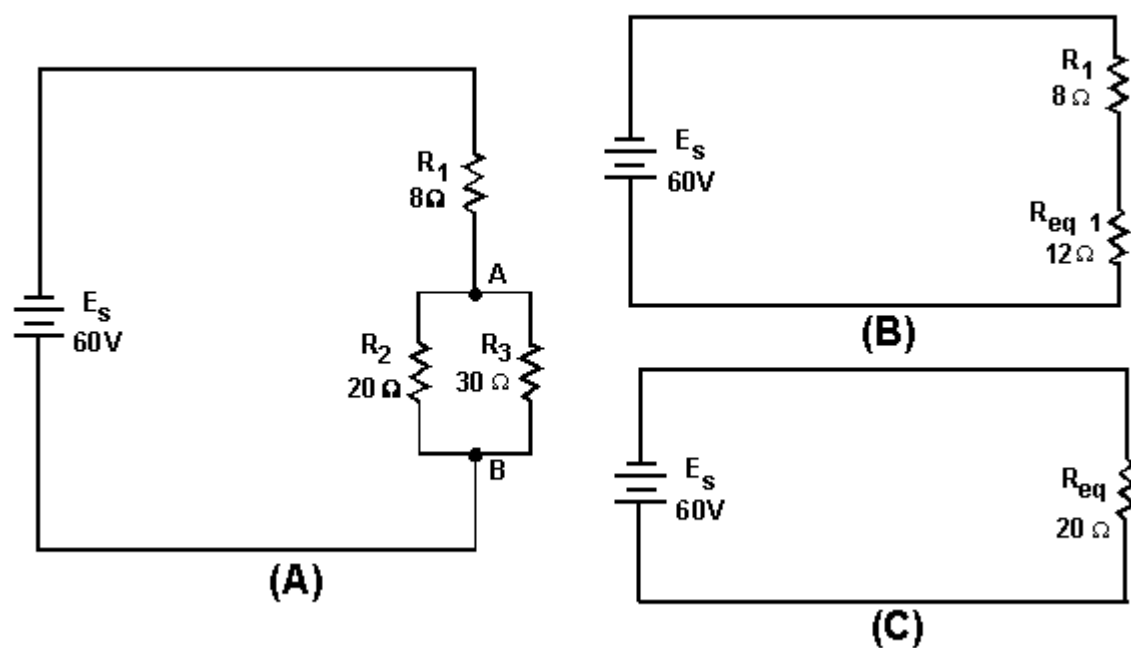

Figure 3-54.—Example combination circuit.
The basic technique used for solving dc combination-circuit problems is the use of equivalent circuits. To simplify a complex circuit to a simple circuit containing only one load, equivalent circuits are substituted (on paper) for the complex circuit they represent. To demonstrate the method used to solve combination circuit problems, the network shown in figure 3-54(A) will be used to calculate various circuit quantities, such as resistance, current, voltage, and power.
Now that the equivalent resistance for  $R_2$  and  $R_3$  has been calculated, the circuit can be redrawn as a series circuit as shown in figure 3-54(B).
The original circuit can be redrawn with a single resistor that represents the equivalent resistance of the entire circuit as shown in figure 3-54(C).
To find the voltage dropped across  $R_1$ ,  $R_2$ , and  $R_3$ , refer to figure 3-54(B).  $R_{eq1}$  represents the parallel network of  $R_2$  and  $R_3$ . Since the voltage across each branch of a parallel circuit is equal, the voltage across  $R_{eq1}$  ( $E_{eq1}$ ) will be equal to the voltage across  $R_2$  ( $E_{R2}$ ) and also equal to the voltage across  $R_3$  ( $E_{R3}$ ).
To find the current through  $R_2$  and  $R_3$ , refer to the original circuit, figure 3-54(A). You know  $E_{R2}$  and  $E_{R3}$  from previous calculation.
Having computed all the currents and voltages of figure 3-54, a complete description of the operation of the circuit can be made. The total current of 3 amps leaves the negative terminal of the battery and flows through the 8-ohm resistor ( $R_1$ ). In so doing, a voltage drop of 24 volts occurs across resistor  $R_1$ . At point A, this 3-ampere current divides into two currents. Of the total current, 1.8 amps flows through the 20-ohm resistor. The remaining current of 1.2 amps flows from point A, down through the 30-ohm resistor to point B. This current produces a voltage drop of 36 volts across the 30-ohm resistor. (Notice that the voltage drops across the 20- and 30-ohm resistors are the same.) The two branch currents of 1.8 and 1.2 amps combine at junction B and the total current of 3 amps flows back to the source. The action of the circuit has been completely described with the exception of power consumed, which could be described using the values previously computed.